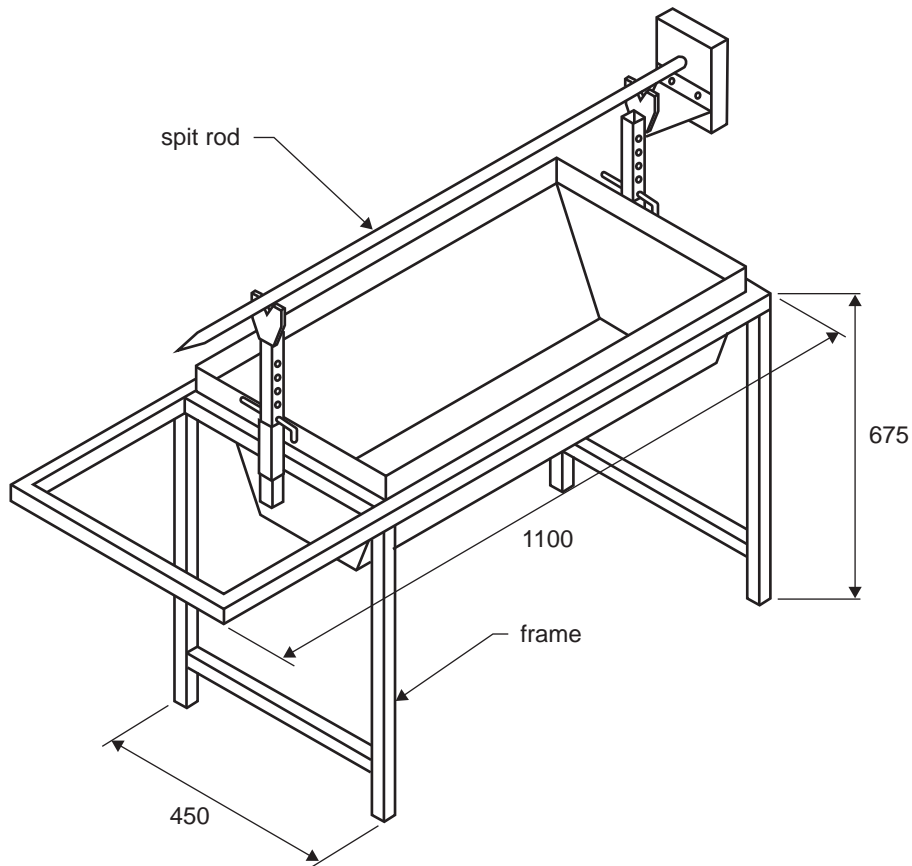

Figure 19
Figure 19 shows the design for a spit barbecue, which allows meat to turn as it is cooking.
The frame of the spit barbecue will be made from 25 mm square tubing, with the overall dimensions of 1100 mm × 450 mm × 675 mm, as shown in Figure 19.
- a. Calculate the total length, in metres, of the square tubing that would be required to make **one** spit barbecue as shown in Figure 19. Show your working. 3 marks
As shown in the design in Figure 19, the spit rod currently sits in a pair of V-shaped support brackets as it rotates, but this design has been observed to cause wear on both the rod and the support brackets.